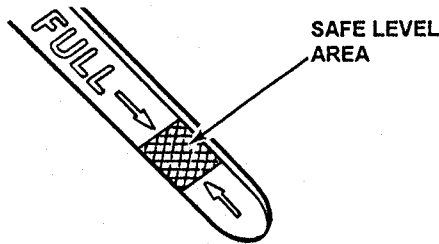

FIGURE 2.1
- 2.1.3. Check engine oil and add oil as needed to bring level up to the full mark. Refer to engine owner's manual for oil specifications. See Figure 2.1.